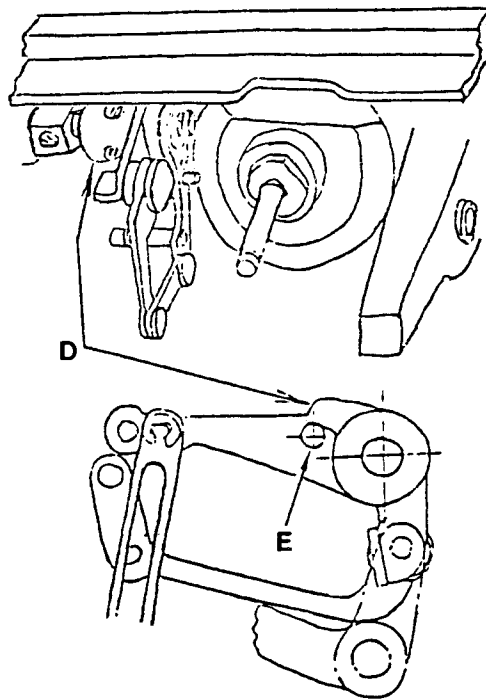

Fig. 29-2
4.    Feed regulator shaft crank (D) should be in contact with feed regulator shaft crank stopper pin (E). (Fig. 29-2).